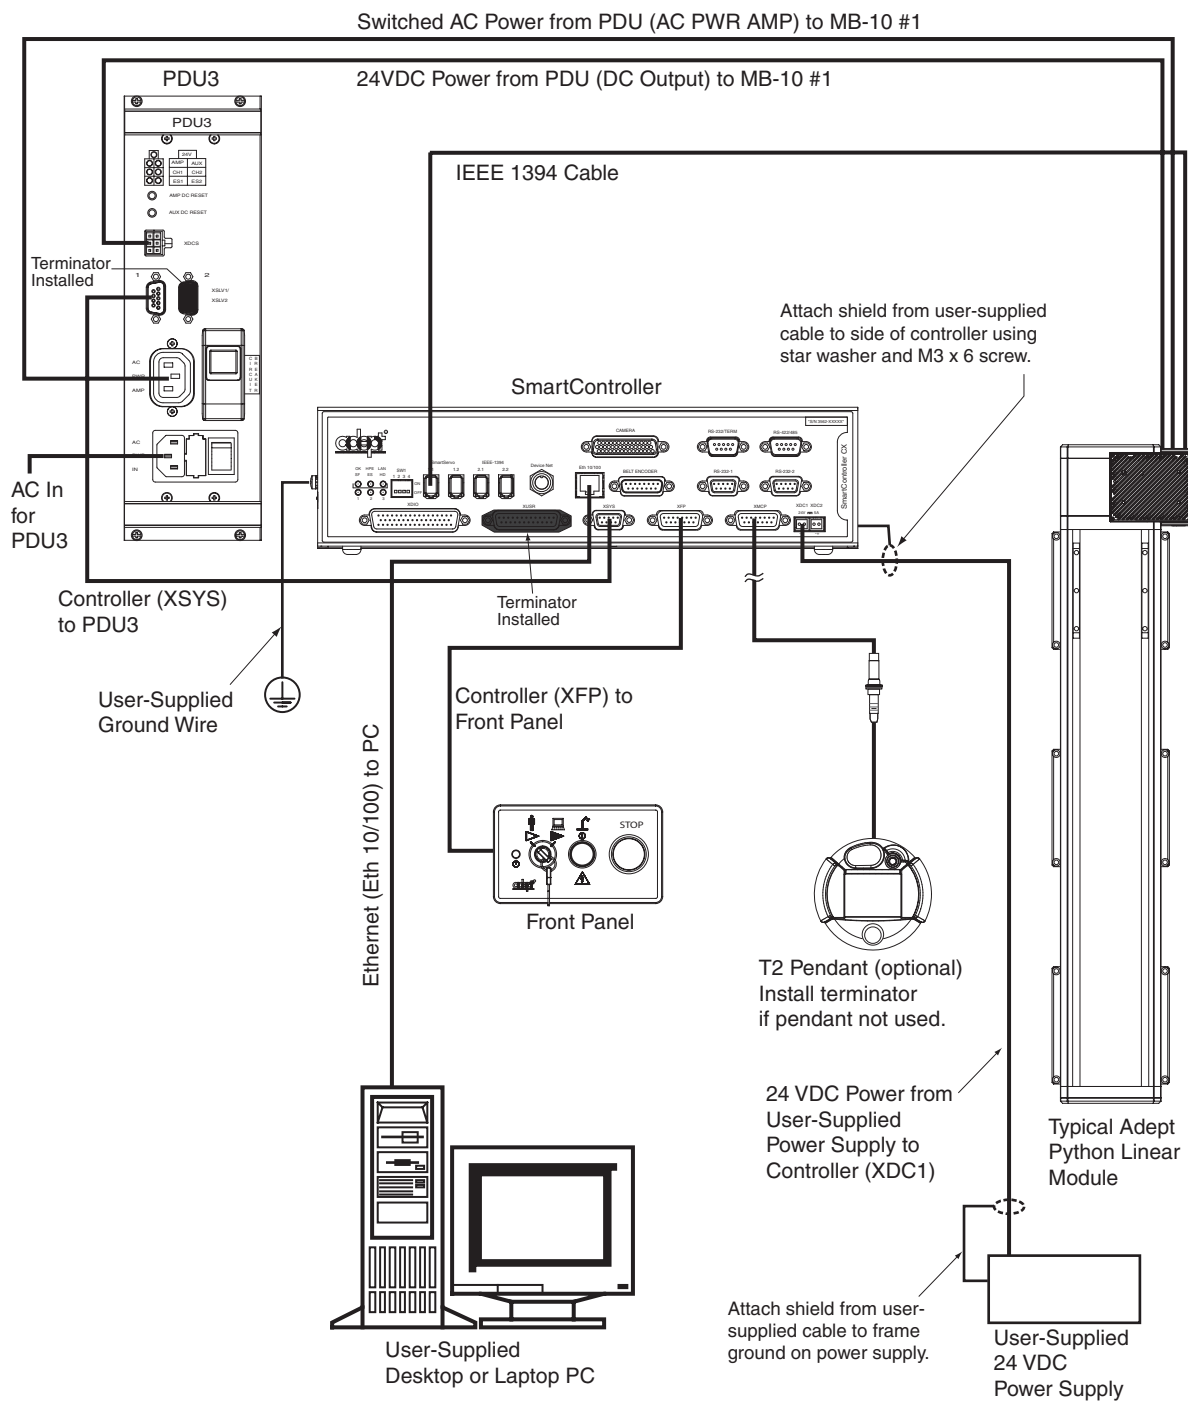

Figure 7-1. System Cable Diagram
The detailed instructions for installing the SmartController, including dimension drawings, are found in the *Adept SmartController User's Guide*. A summary of the main steps is provided here. Also refer to the system cable diagram in **Figure 7-1 on page 118** for an overview of the system components.
**NOTE:** Attach the shield from the user-supplied 24 VDC cable to the right-hand side of the controller using a star washer and M3 x 6 mm screw. Select the threaded hole on the side of the controller that is closest to the 24 VDC connector (XDC1/XDC2). See **Figure 7-1 on page 118**.
The Adept Front Panel provides an Emergency Stop switch, a Manual/ Auto mode switch, and a High Power enable switch. See Figure 7-1 on page 118 for the system cable diagram. In order for the installation of the Front Panel to conform with RIA and European standards for power control functions, it must be mounted outside the Python modules or other robot workcell.